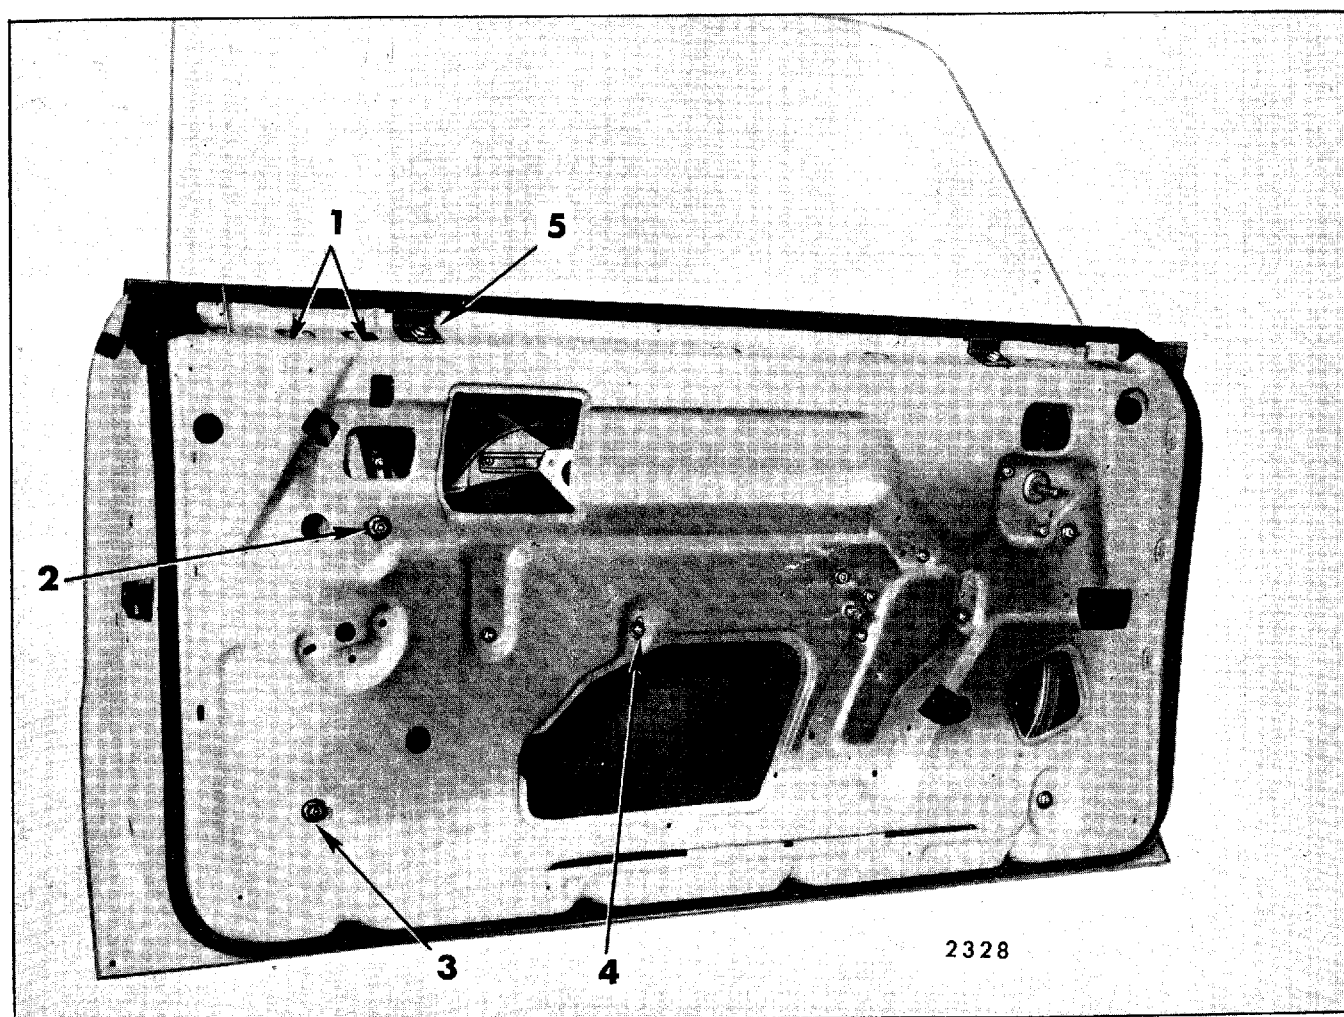

Fig. 7-99—Front Door Hardware - 49487 Style
3. Remove center and lower adjusting stud nuts and upper two attaching bolts and remove guide assembly (see Fig. 7-99).